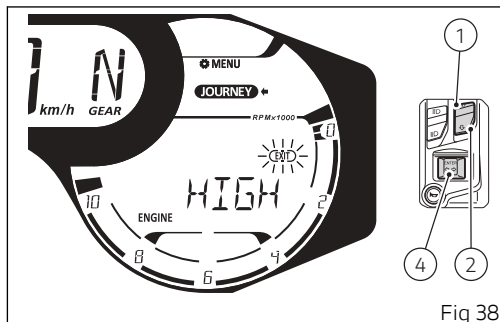

Fig 38
The instrument panel displays the new set level and "EXIT" with flashing frame (Fig 38). Now press button (4) to go back to previous display mode.